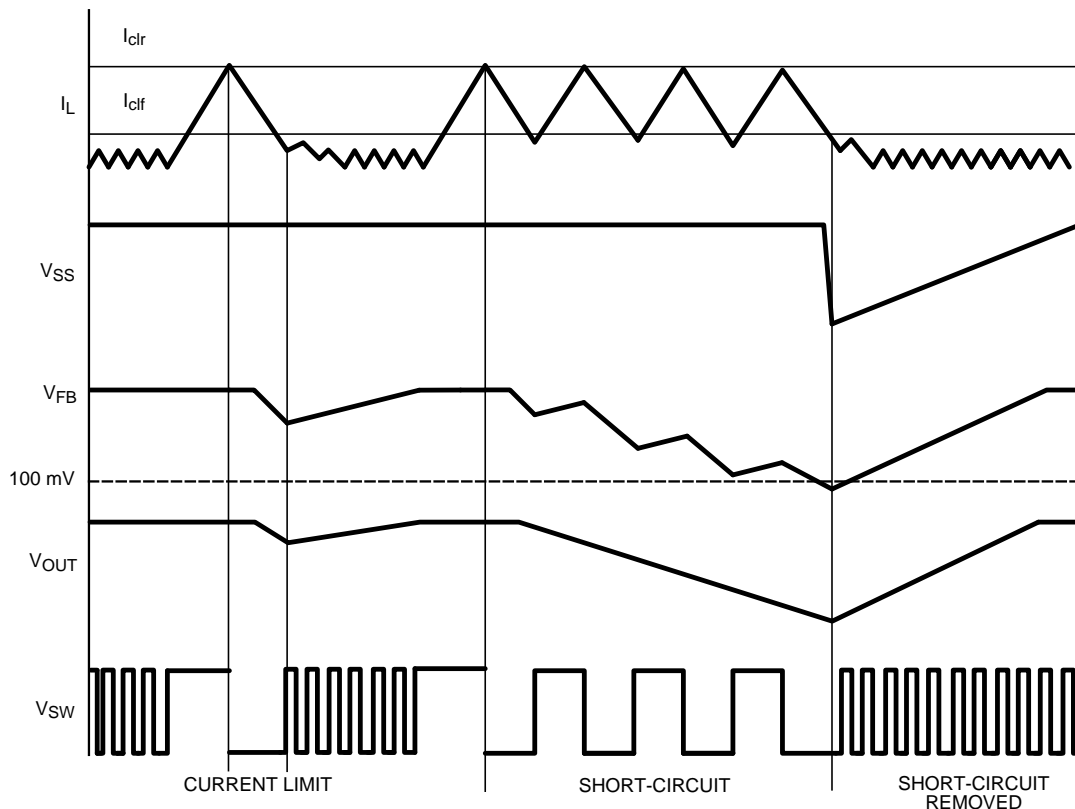

Figure 23. Current Limit Conditions
A current limit condition will cause the internal soft-start voltage to ramp downward. After the internal soft-start ramps below the Feedback (FB) pin voltage, (nominally 0.6 V), FB will begin to ramp downward, as well. This voltage foldback will limit the power consumption in the device, thereby protecting the device from continuously supplying power to the load under a condition that does not fall within the device SOA. After the current limit condition is cleared, the internal soft-start voltage will ramp up again. Figure 23 shows current limit behavior with V_{SS} , V_{FB} , V_{OUT} and V_{SW} .